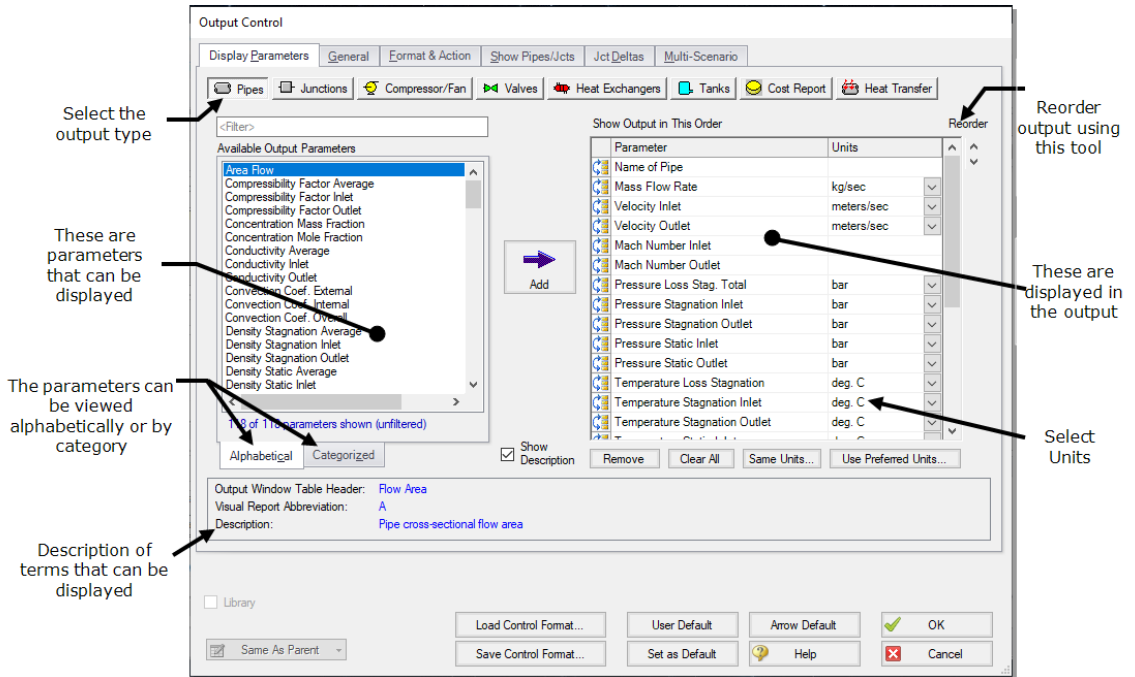

Figure 2.17 The Output Control window lets you customize the output
The Output Control window (Figure 2.17) allows you to select the specific output parameters you want in your output. You also can choose the units for the output. If you do not change any of the Output Control settings, default Output Control parameters and a default title are assigned.
- **Select Output Control** from the Tools menu or the Main Toolbar to open the Output Control window (Figure 2.17). On the Display Parameters tab, select the Pipes button. The list of selected pipe output parameters will be displayed on the right hand side. If you selected the default AFT Arrow Output Control, the pipe results in the Pipes table will show mass flow rate in the second column with units of kg/sec. Change the units for Mass Flow Rate by selecting kg/hr (kilograms per hour) from the unit list shown beside the parameter.
- **Select Output Control from the Tools menu** one more time. Select the Display Parameters tab, and select the Pipes button. The Reorder scroll bar on the far right allows you to reorder the sequence of parameters that will be displayed in the output. You can also click on the reorder symbol on the left side of each row to manually drag-and-drop the rows to change the parameter order (see Figure 2.17).